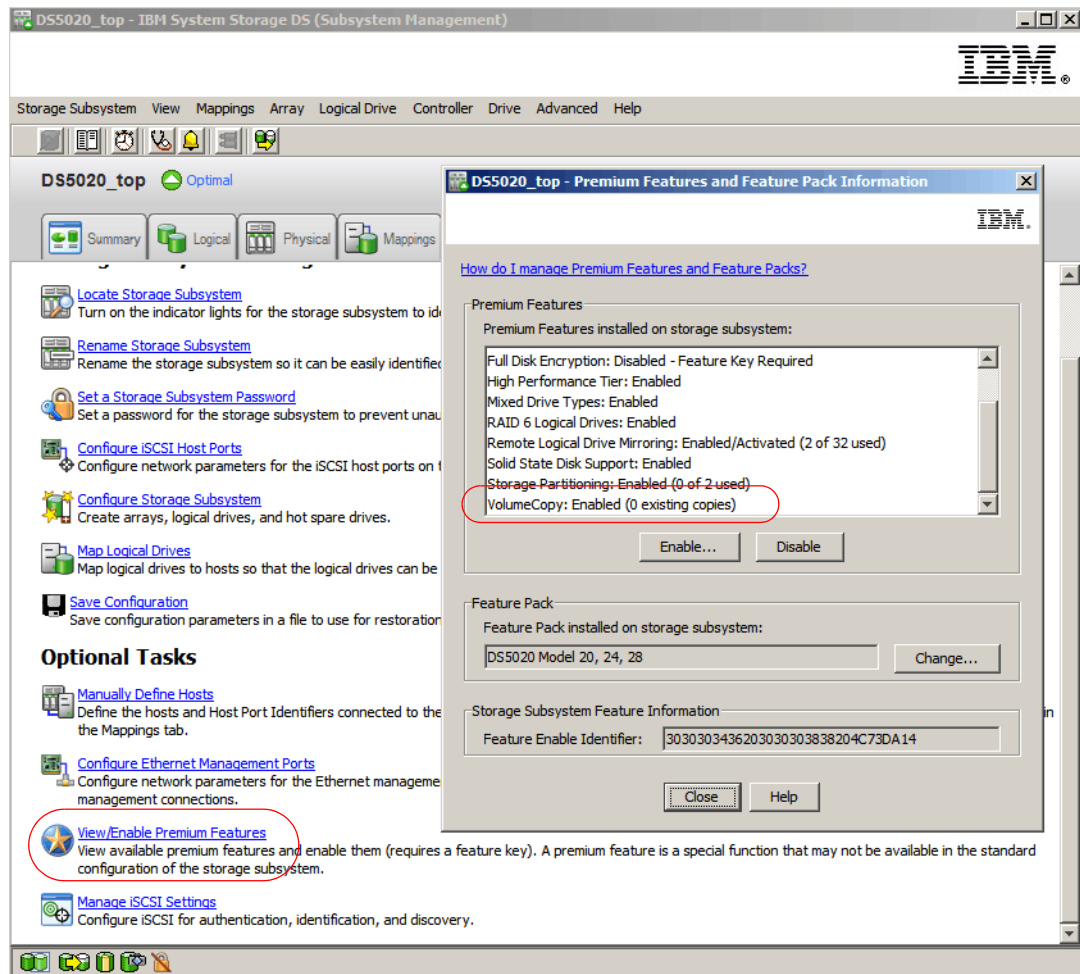

Figure 1-5 Premium Feature Activated
4. Select **Storage Subsystem** → **Premium Features**, or select the **Setup view** of the DS Storage Manager (Subsystem Management) window, then click **View/enable Premium Features**. The premium feature activated shows as Enabled; see Figure 1-5 on page 10
Note: You can also access the **Premium Features and Feature Pack information** window from the Setup tab of the DS Storage Manager (Subsystem Management) as shown in Figure 1-5.